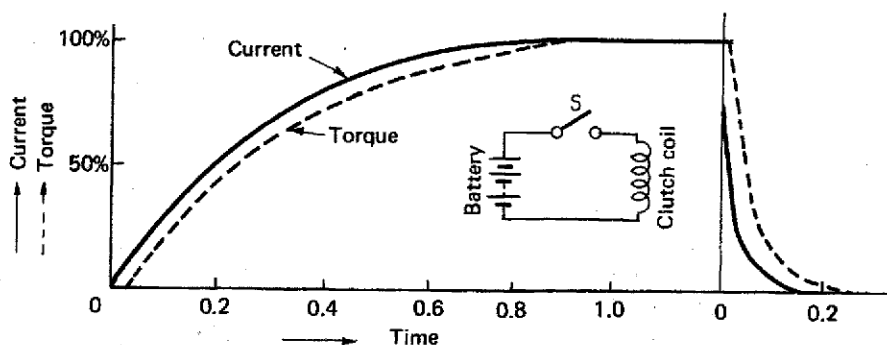

Fig. 12 Characteristics of current and torque
When the switch S is closed, the current rises according to a time constant determined by the inductance (L) and resistance (R) of the clutch coil and the torque rises also in almost the same proportion slightly later than that. It attenuates likewise slightly later than the current when the switch S is opened. (Fig. 12)